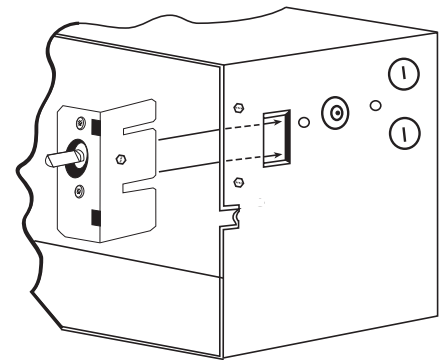

Figure 6
2. Position thermostat above slot in right end of back box. Push tab on thermostat bracket through slot in top, right end of back box until the bracket locks in place (see Figure 6).